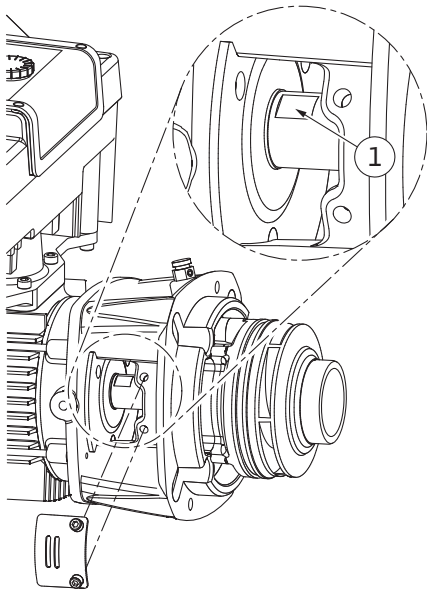

Fig. 106: Wrench flats on the shaft
14. Insert an open-end wrench (22 mm width across flats) into the lantern window and hold the shaft by the wrench flats (Fig. 106, Item 1). Unbolt the impeller nut (Fig. I, Item 22). The impeller (Fig. I, Item 21) is automatically pulled off the shaft.
3. Insert an open-end wrench (22 mm width across flats) into the lantern window and hold the shaft by the wrench flats (Fig. 106, Item 1).
10. Insert an open-end wrench (32 mm width across flats) into the lantern window (Fig. IV, Item 38) and hold the shaft by the wrench flats (Fig. 106, Item 1). Install the impeller with washer(s) and nut. Tighten the nut. Avoid damage to the mechanical seal due to jamming.